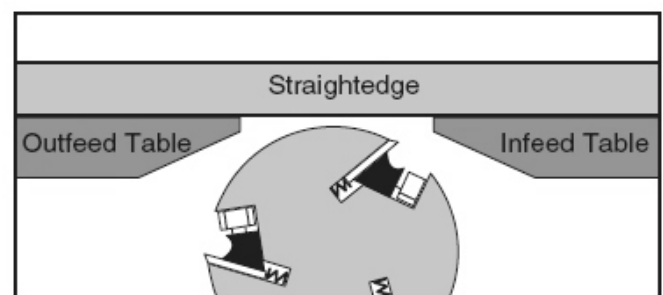

Figure 34. Infeed and outfeed tables set evenly.
2. Place the straightedge halfway across the infeed table and halfway over the outfeed table, and adjust the infeed table even with the outfeed table, as shown in **Figure 34**.